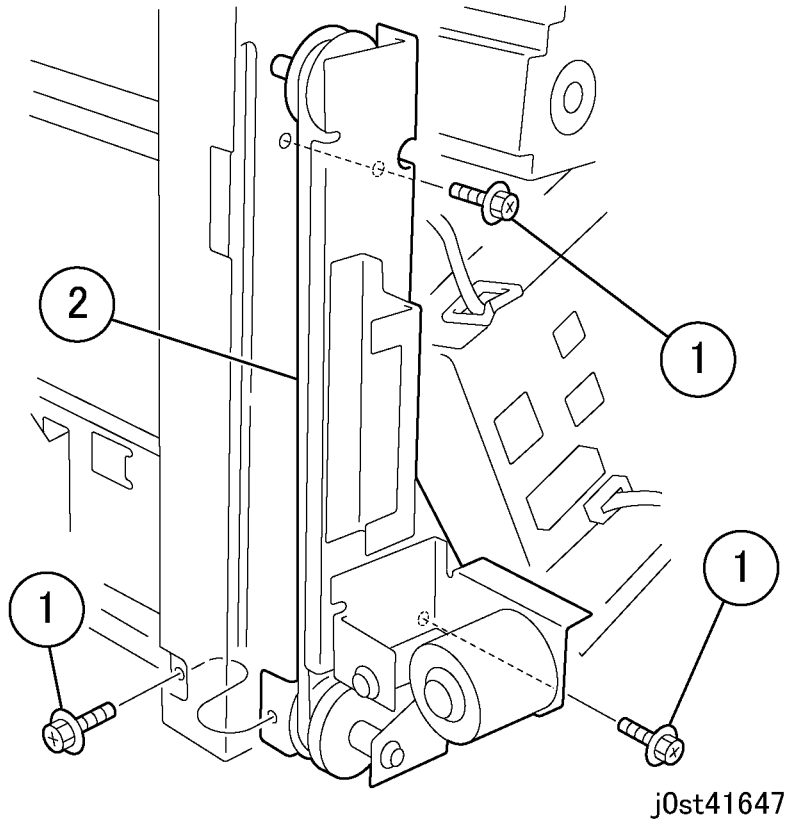

Figure 3 Removing the Elevator Belt Assembly
4. Remove the Elevator Belt Assembly. (Figure 3)